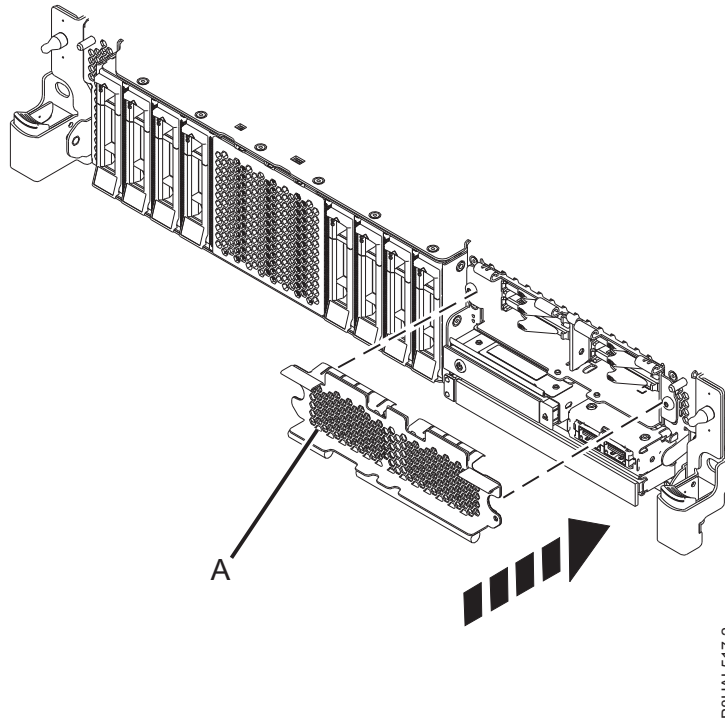

Figure 57. Covering the SSD cage in an expanded function system
3. If applicable, cover the SSD cage with the perforated plate (**A**) as shown in Figure 57 on page 58.